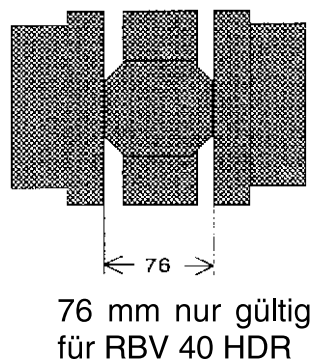

Fig. 54: PDA
- Measure the size of the PDA as shown in (Fig. 54 / p. 104) and compare the value to table 1.